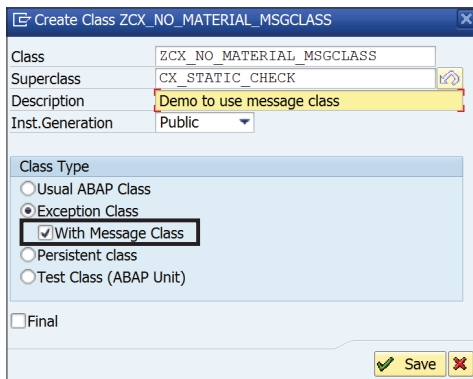

Figure 9.25 Class Properties Window
1. Select the WITH MESSAGE CLASS checkbox, as shown in Figure 9.25.